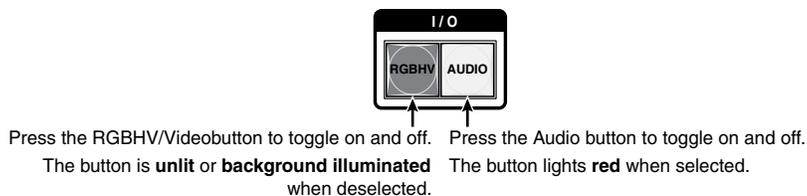

Figure 3-18 — Select audio only
2. To select audio only for the tie, if necessary, press and release the RGBHV (CrossPoint switchers) or Video (MAV Plus switchers) button and the Audio button (figure 3-18).